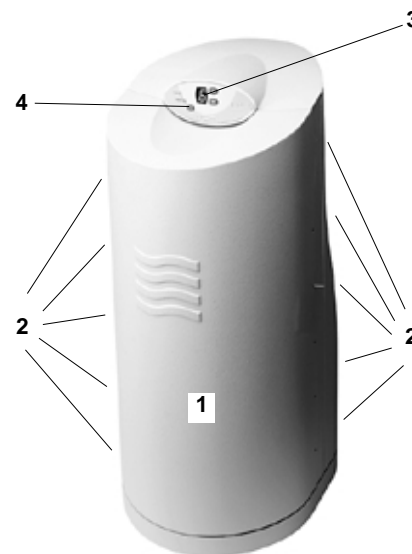

Fig. 1. Column Selector with cover.
1. Figure 1 shows a front view of the Column Selector with the Cover (1) mounted.
- a) The Cover (1) is magnetically secured and is simply pulled off to give access to the columns.
- b) Positioned on either side of the main unit are five holes (2) designed to allow tubing at the valve IN/OUT ports to pass through while the cover remains on. The multiple positions of the holes, allow the user to minimize tubing connectors to the injector and the detector.
- c) The Numeric Display (3) is visible with or without the cover on the unit. The number of the column that is in-line is displayed here.
- d) The Local-Remote button (4) is located in this area. The button controls manual or remote column selection.